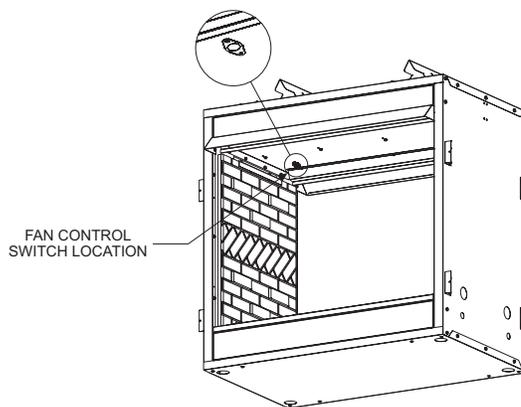

Figure 17
6. Next, find the fan control switch and wire assembly. Feed the wires through the hole at the top of the firebox. Feed the wires over the firebox top and down between the firebox side and outer wrap then, secure the fan control switch with (2) #6 screws provided. **See Figure 17.**